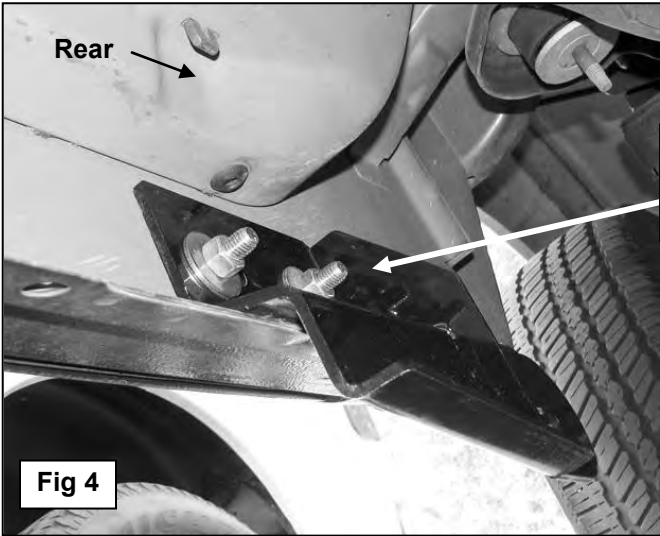

Fig 4
8. Select the passenger side Rear Mounting Bracket. Attach the Bracket to the Bolt Plate with (2) 12mm Flat Washers, (2) 12mm Lock Washers and (2) 12mm Hex Nuts, (**Figure 4**). Snug all hardware but do not tighten at this time.